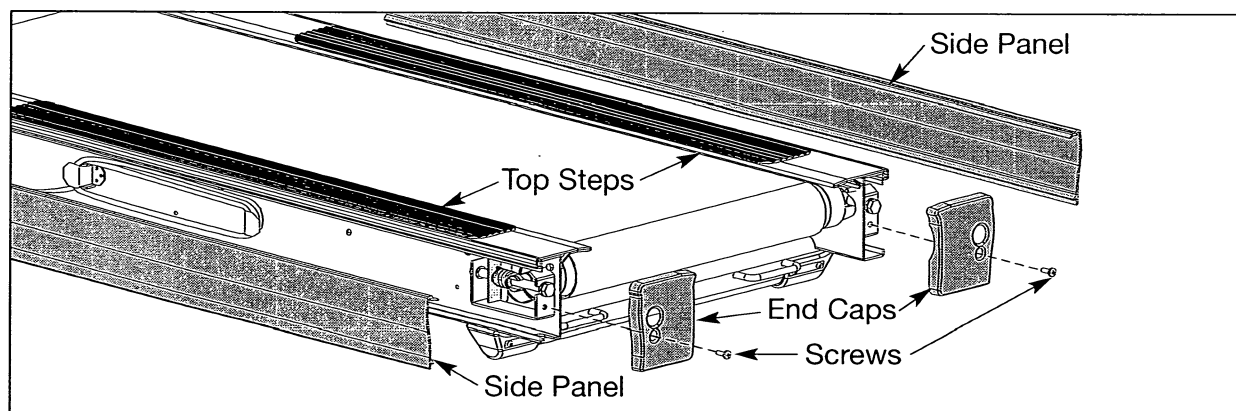

Figure 3
- A. Using a Phillips head screwdriver, remove the screw that holds each end cap in place. See Figure 3.
A. Pull each side panel out and off the treadmill. See Figure 3.
B. Grasp each top step and lift it out and off the treadmill. See Figures 3 and 4.
- A. Using a Phillips head screwdriver, tighten the screw securing each end cap in place. See Figure 3.
- A. Place each side panel into position slightly under the end cap and use your hand to push all along the bottom edge of the side panel to snap it in place. See Figure 3.